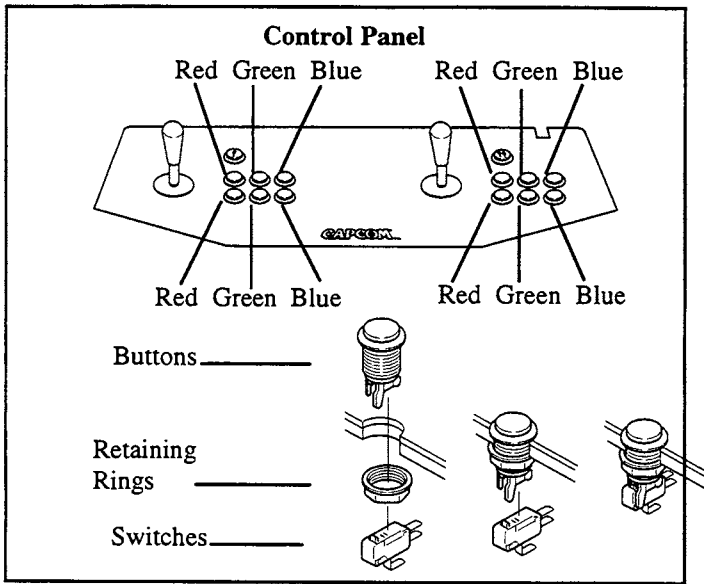

FIGURE 2
14. Install all buttons and retaining rings on the control panel as shown in Figure 2. Install two RED buttons to the immediate right of each joystick, install two GREEN buttons to the right of the red ones, and install two BLUE buttons to the right of the green ones.
16. Install the switched on the buttons as shown in Figure 2. Orient the switches so that when a button is pressed, the red contact on the switch is depressed.